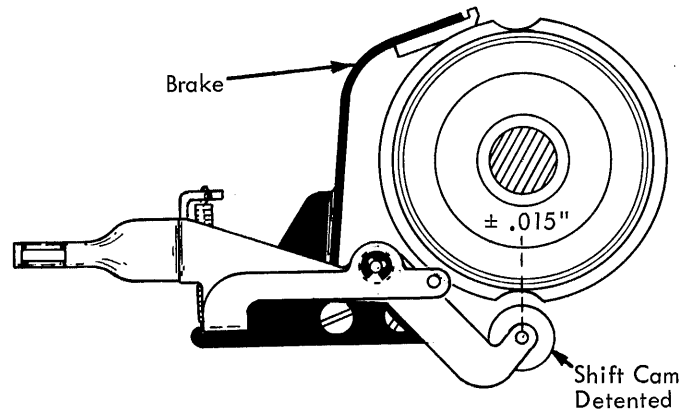

FIGURE 69. Shift Cam Brake Adjustment
4. Shift Cam Brake (Fig. 69) - The shift cam brake shall be so adjusted, that the shift cam will stop in the center of the detent position $\pm .015''$, when the detent roller is held away from the cam during the shift from upper case to lower case.